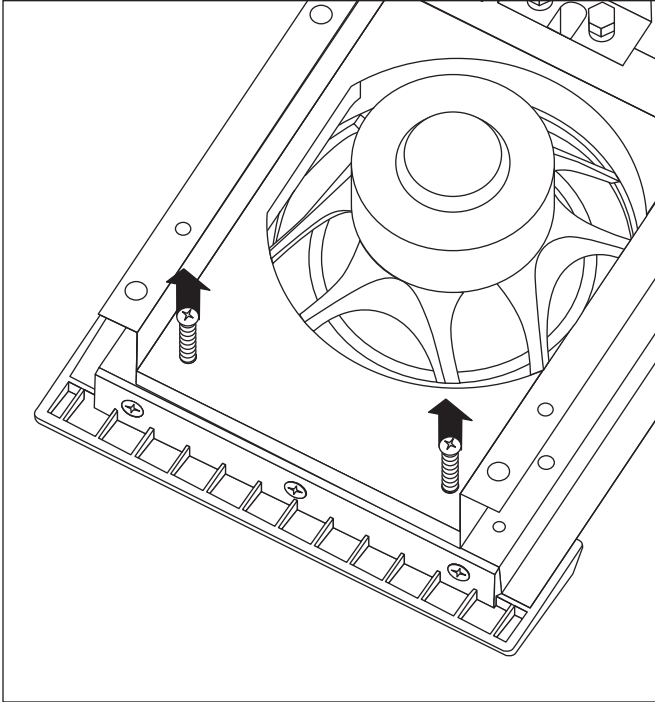

Figure 14. Removing the end caps step 2.
- 2 Using a Phillips head screwdriver remove 2 screws from the back/bottom of the Voyage (see figure 14).